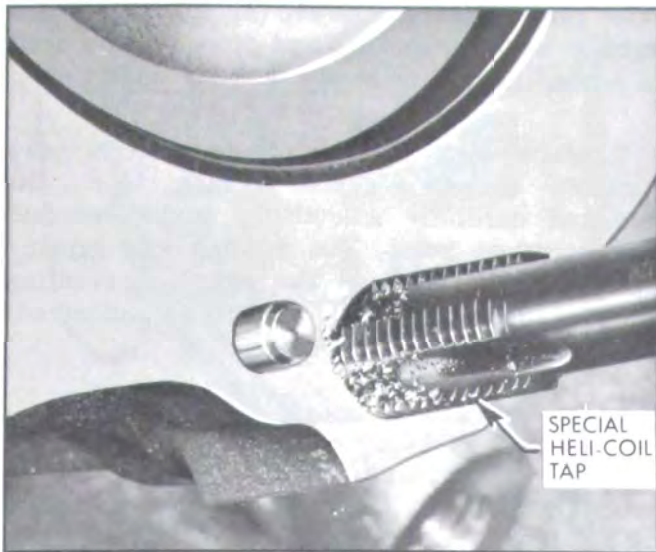

Figure 2-72—Tapping New Thread
2. Cut new threads. See Figure 2-72.